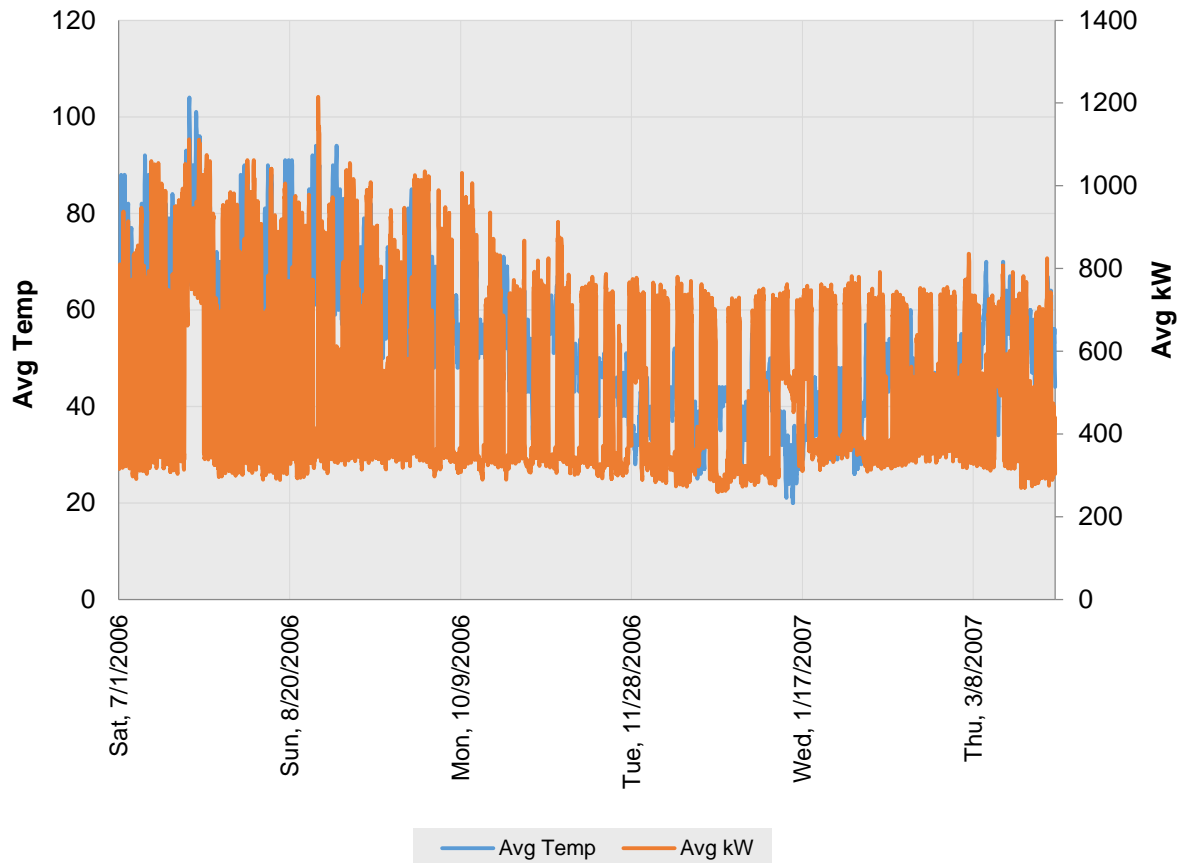

Figure 90: Points History Chart of Temperature and kW
- Interval data will look very "spiky", as shown in Figure 90: